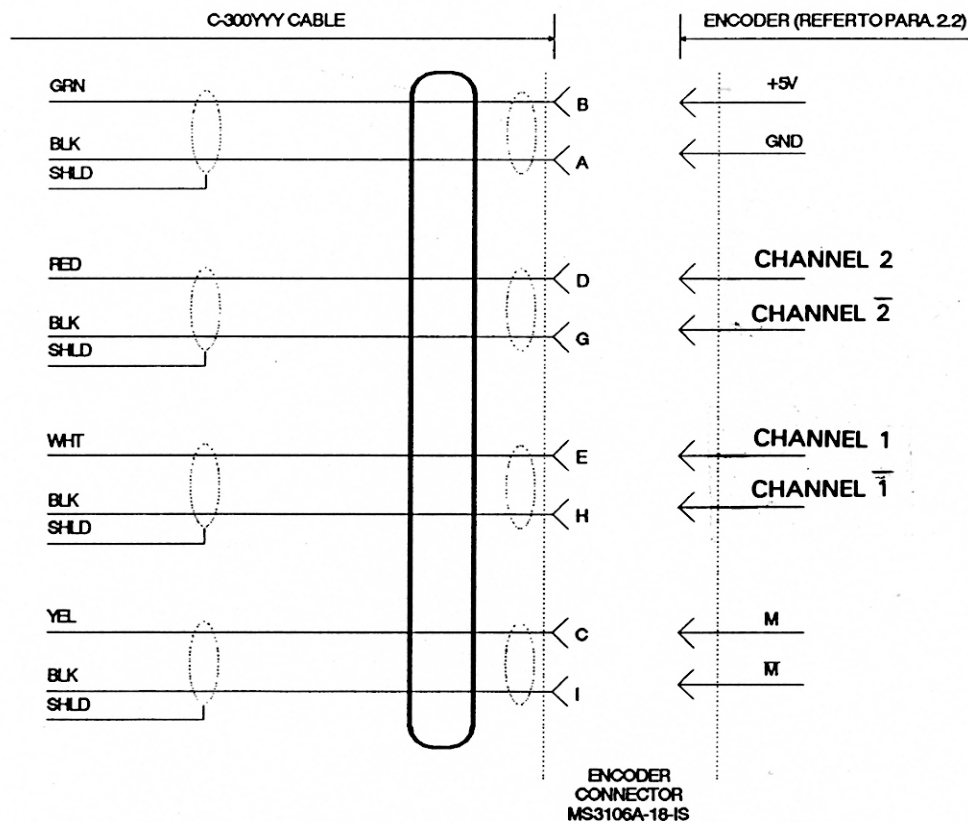

Figure 5-6 C-300YYY Interconnecting Cable, Wiring Diagram
9. Refer to Figure 5-6 and check for shorts between conductors or opens within conductors. If either opens or shorts are suspected, replace the interconnecting cable.